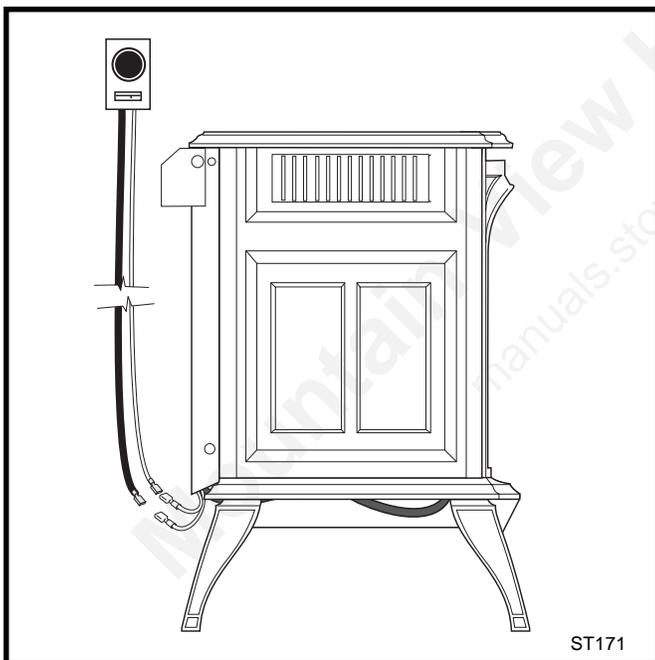

Fig. 16 Attach leads for an optional thermostat to the connectors at the lower left rear corner of the stove.
2. Connect the thermostat wires to the two 1/4" female connectors extending out of the control valve wire harness. These wires are accessible from under the left rear side of the stove. Either thermostat wire may be connected to either terminal. (Fig.16)